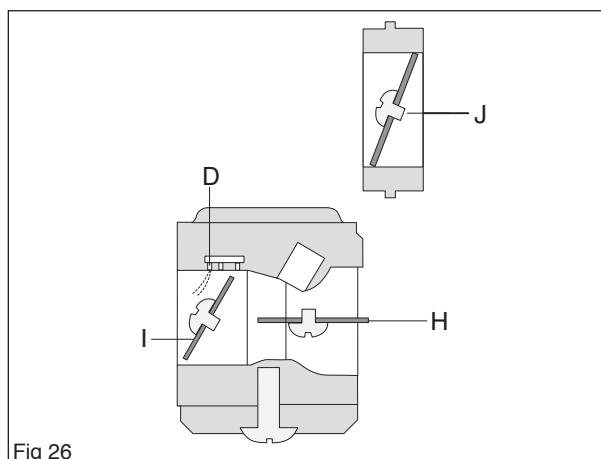

Fig 26
Air is sucked in through an aperture in the throttle valve and a small amount of fuel is supplied through the diffuser jet (D). (see figure 26)